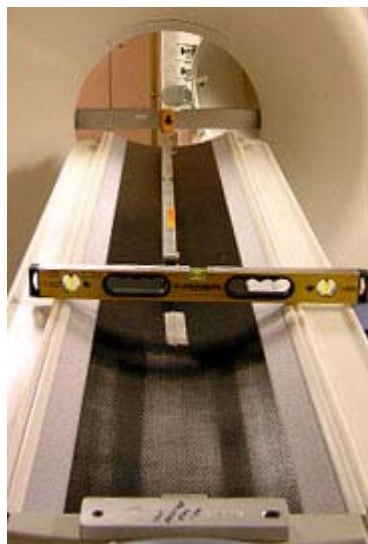

Figure 1-34 Alignment Laser Marks - Table & Wall
- 9.) Raise or lower the table as needed using the front and rear levelers and level the cradle horizontally in the front and back locations (refer to Figure 1-34):